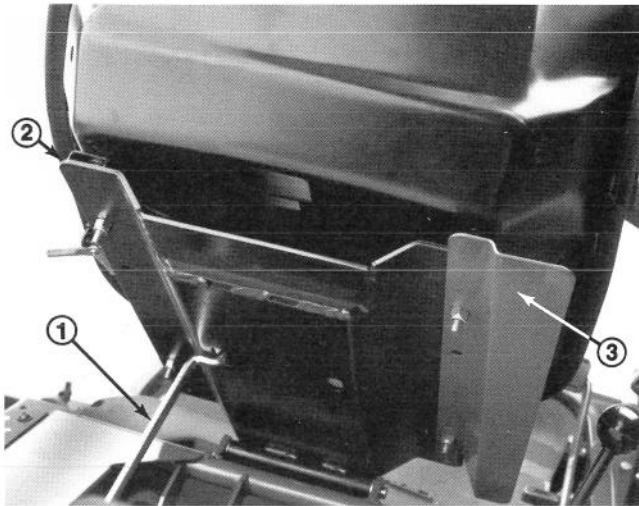

Figure 3
MOUNT SEAT (Fig. 3)
3. Secure seat, seat panel and seat slides to seat support with 5/16-18 lock nuts supplied in loose parts. Seat cover to be mounted on right side, positioned as shown in fig. 3.